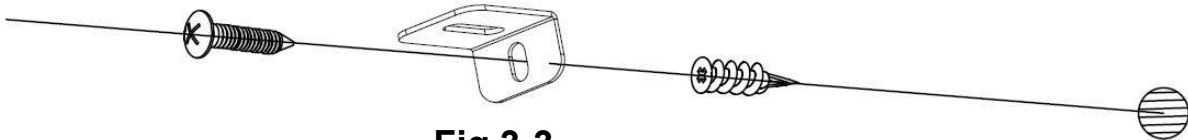

Fig 3-3
C. Install the plastic anchor into the dry wall, then install the screw **B** (supplied) into the hole of the L-bracket into the wall anchor to secure the fireplace from coming off the hooks. (Fig 3-3)